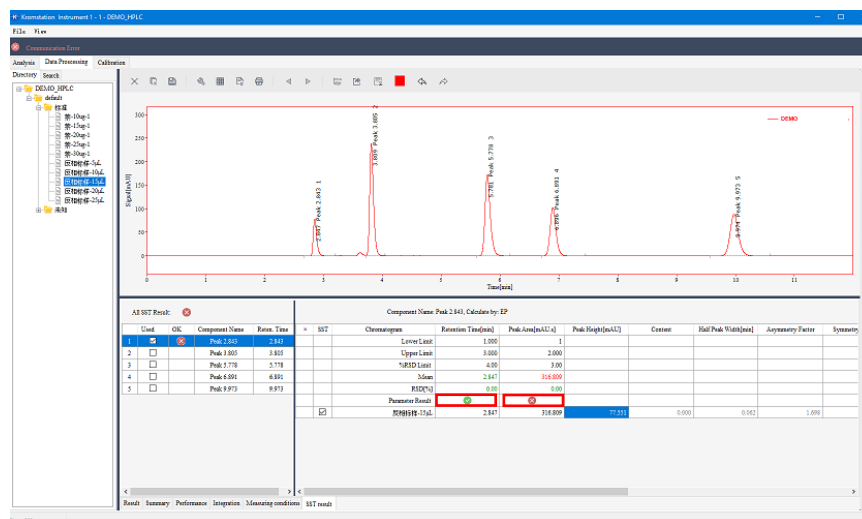

Figure 6-24 Parameter result display in SST
10) In the SST result table, fill in the upper and lower limits of the parameter and the limit of RSD%, and the system will automatically make a judgment on the test result. If the result obtained is within the specified range, in the "parameter result" section, the system will automatically mark "✔", if the result obtained exceeds the specified range, the system will automatically mark "✘", as shown in Figure 6-24.